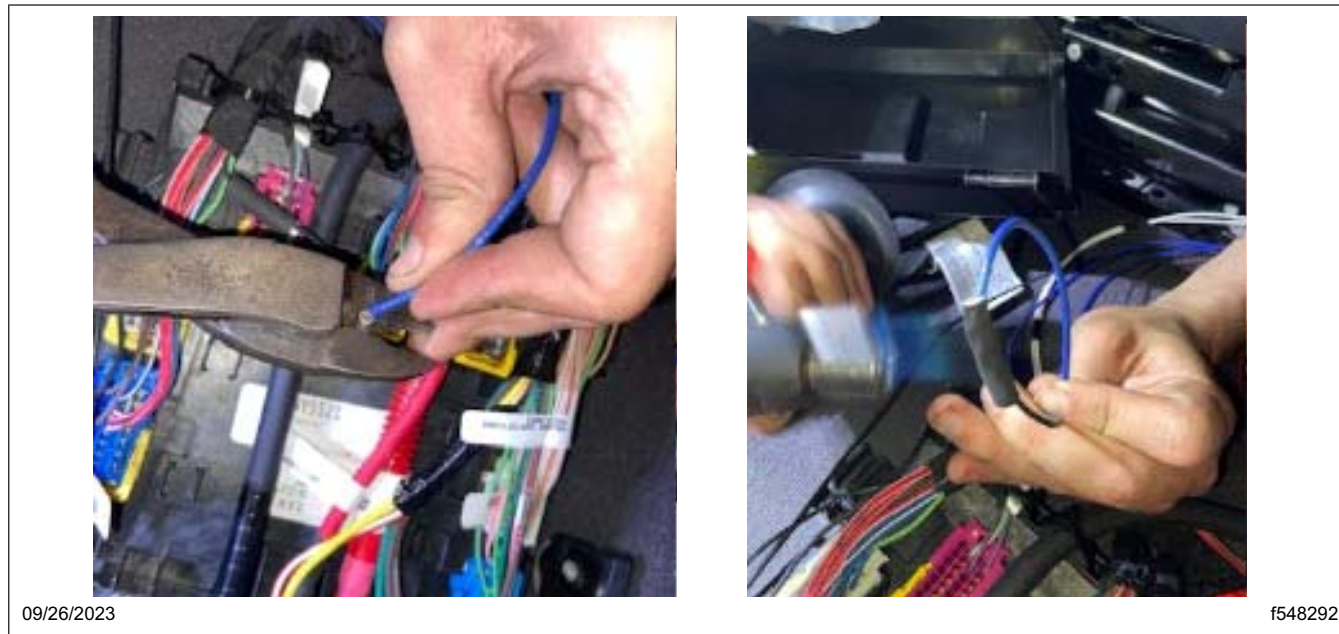

Fig. 24, Splicing the Wire
- 9.8 Splice the wire removed from cavity 1 of the SSAM X10 connector to the longer blue wire that was routed to the X10 connector in step 8. See Fig. 24.